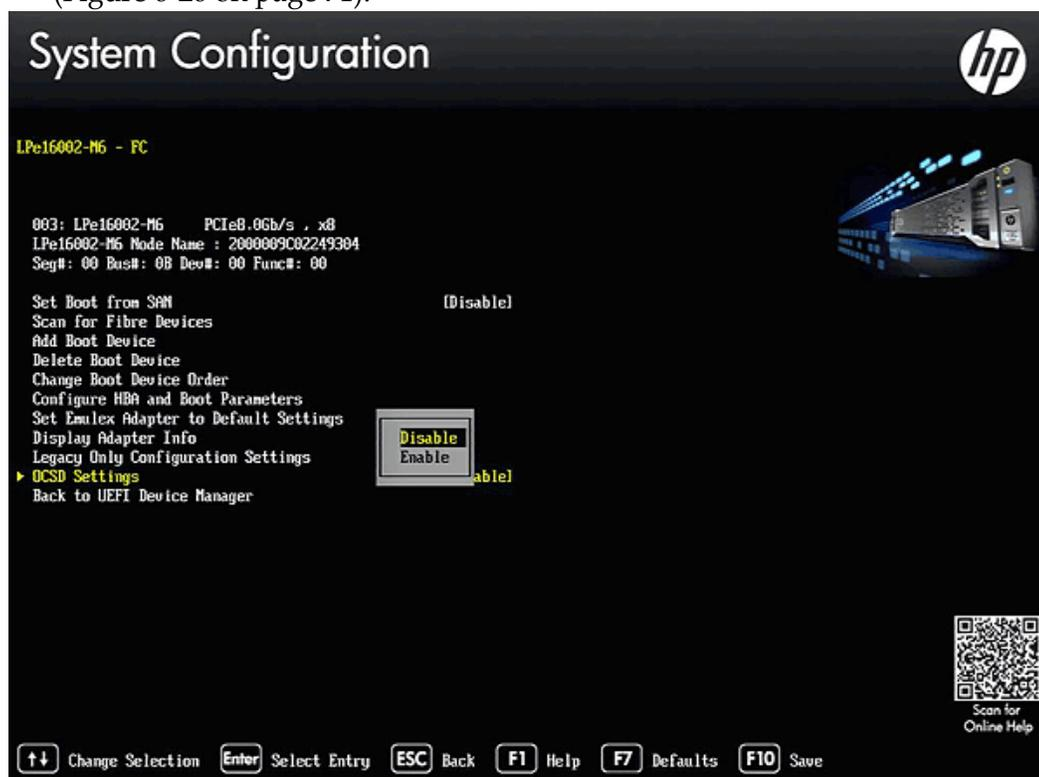

Figure 6-26 OCSD Settings Menu Screen
2. Navigate to OCSD Settings and press **<Enter>**. The Disable/Enable menu appears. (Figure 6-26 on page 71).